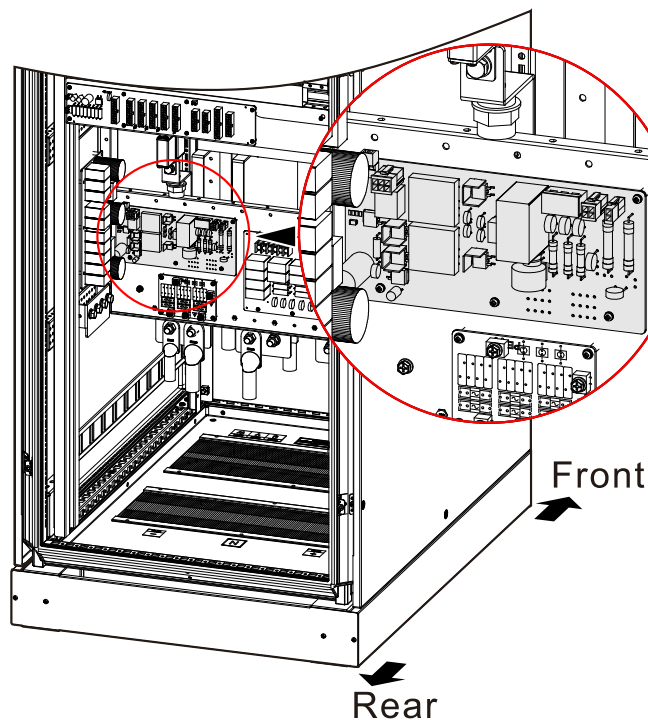

Figure3-24 The position of battery tripper PCB board
- Step 1 Take the battery tripper PCB board out and install it in the rear of UPS through five M4 screws, as shown in Figure3-24.